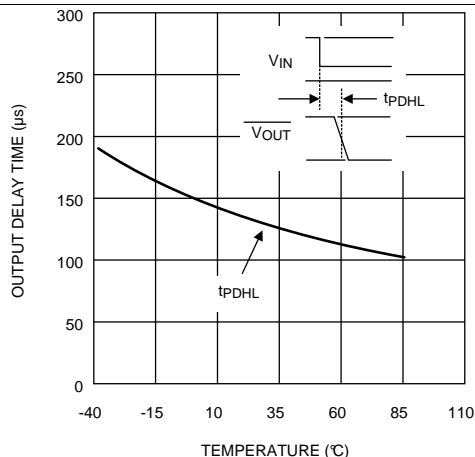

Figure 3. Propagation Delay Time (t_{PDL}) vs Temperature
** See Figure 3 for tPDHL values